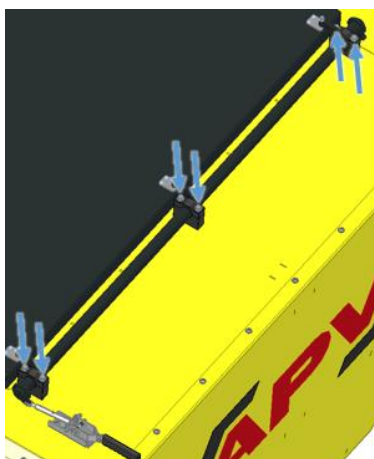

Figure 6
- The three plastic bearings on the shaft are opened (see Figure 6).